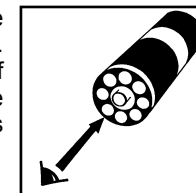

Figure 2
5. Obtain a test result by gently placing the ampoule, flat end first, into the comparator. Hold the comparator up toward a source of light and view from the bottom. Rotate the comparator until the best color match is found (fig 2).